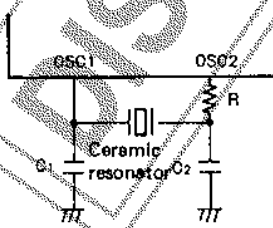

Fig. 4 Ceramic Resonator Oscillation Circuit
| Ceramic Resonator Oscillation | I _{DDOP} (4) | Fig. 4 4MHz, 1/3 predivider | V _{DD} =4 to 6V, V _{DD} | | 2.5 | 8 | mA |
| | I _{DDOP} (5) | Fig. 4 4MHz, 1/4 predivider | V _{DD} =4 to 6V, V _{DD} | | 2.0 | 6 | mA |
| | I _{DDOP} (6) | Fig. 4 400kHz | V _{DD} | | 0.5 | 2 | mA |
| | I _{DDOP} (7) | Fig. 4 800kHz | V _{DD} =4 to 6V, V _{DD} | | 1.5 | 4 | mA |
| Oscillation Frequency | f _{CFOSC} (*4) | Fig. 4, fo=400kHz | OSC1, OSC2 | 384 | 400 | 416 | kHz |
| | | Fig. 4, fo=800kHz | V _{DD} =4 to 6V, OSC1, OSC2 | 768 | 800 | 832 | kHz |
| | | Fig. 4, fo=1MHz | V _{DD} =4 to 6V, OSC1, OSC2 | 960 | 1000 | 1040 | kHz |
| | | Fig. 4, fo=4MHz, 1/3 predivider, 1/4 predivider | V _{DD} =4 to 6V, OSC1, OSC2 | 3840 | 4000 | 4160 | kHz |
- (*1) When oscillated internally under the oscillating conditions in Fig. 4, up to the oscillation amplitude generated is allowable.